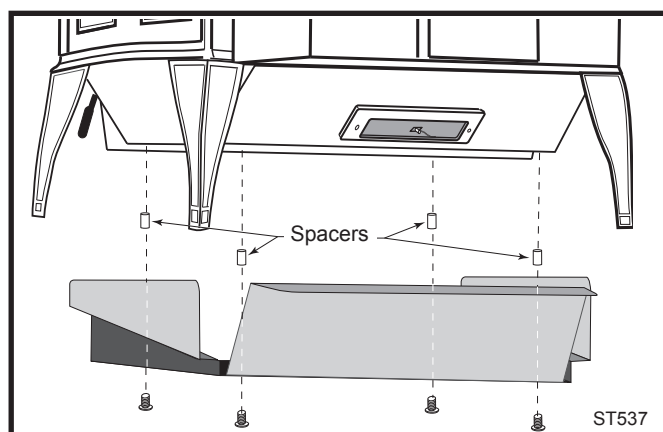

Fig. 23 Attach the optional bottom heat shield.
4. Secure the shield with the four hex head bolts removed from the stove bottom previously. Tighten securely. (Fig. 23)